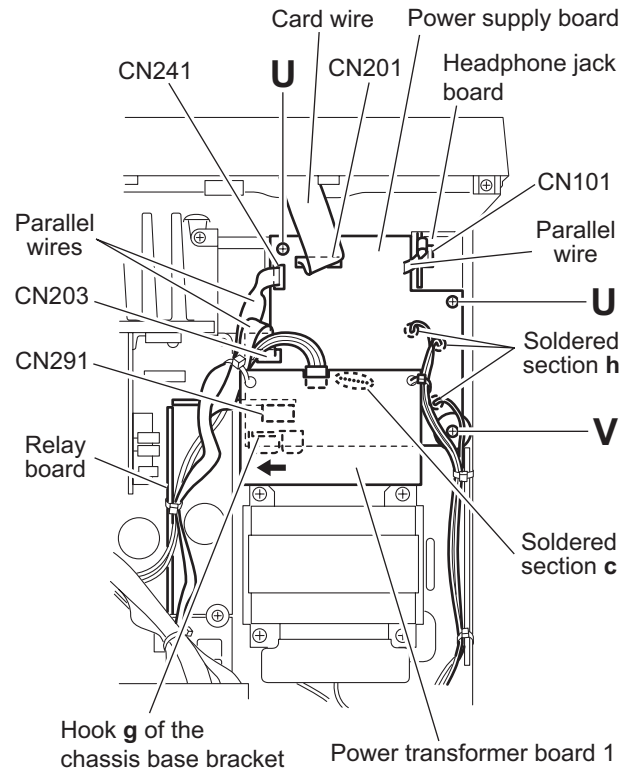

Fig.16
3.14 Removing the power supply board (See Fig.16)
3.15 Removing the headphone jack board (See Figs.16 and 17)
- (1) From the top side of the main body, disconnect the parallel wire from the connector CN101 on the headphone jack board. (See Fig.16)